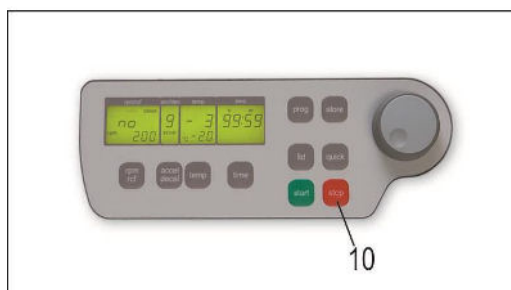

Figure 29
With the "stop" key (10), the run time can be interrupted, at any time, (see Figure 29). After pressing the key, the centrifuge decelerates with the respective pre-selected intensity, down to a standstill.
For all number marked text, please refer to Figure 29 and 30.